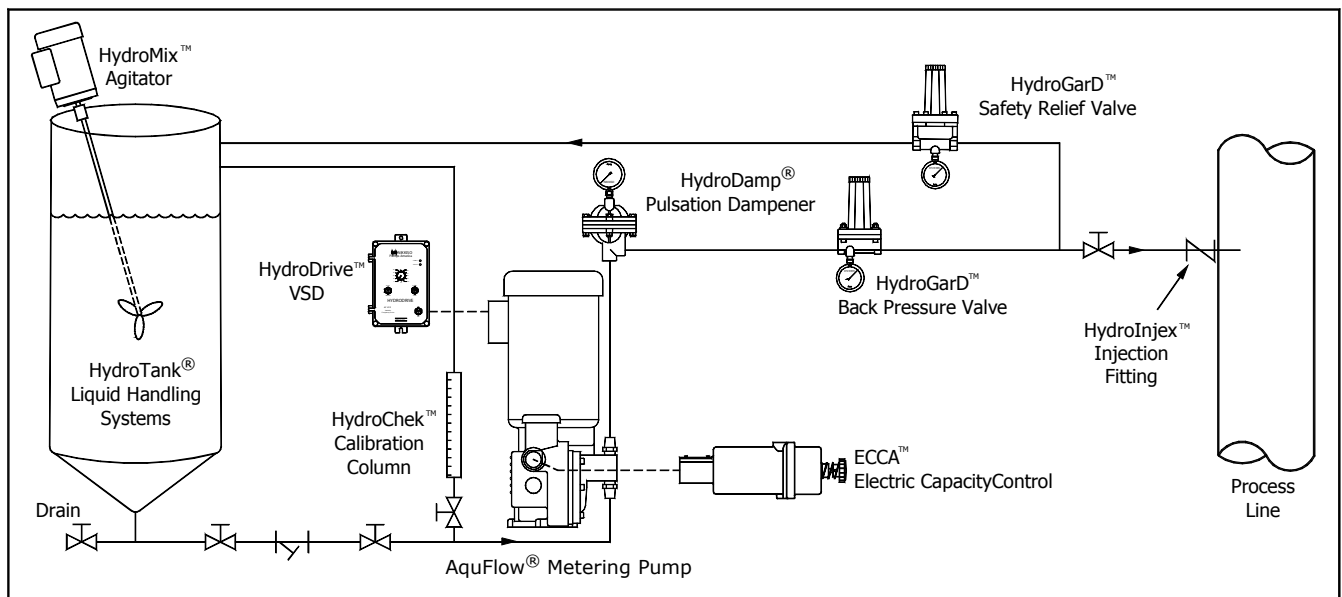

Figure 3. Typical Metering Pump Installation
2. A minimum positive pressure differential of 25 psi between the suction and discharge valves is recommended for proper hydraulic bypass operation and seating of the ball checks. Should normal discharge pressure be less than the suction pressure, an artificial discharge pressure must be created to prevent siphoning. This can be accomplished by the use of an AquFlow HydroGarD™ back pressure valve installed in the discharge piping as shown in Figure 3 above.
If there are other sources of pressure or hydraulically isolated sections of piping in the system, an external safety relief valve must be installed in the pump discharge line as close to the pump as possible, and BEFORE any isolation valve. The safety relief valve should be piped back to the suction tank or safety drain as shown in Figure 3.
4. Check to be certain that accessory components and fittings have been installed in the proper orientation and sequence as shown in Figure 3.
Pump calibration can be accomplished by measuring the decrease in liquid level pumped from a HydroChek™ calibration column installed in the suction line as shown in Figure 3 on page 3. Follow the calibration instructions provided by the cylinder manufacturer.